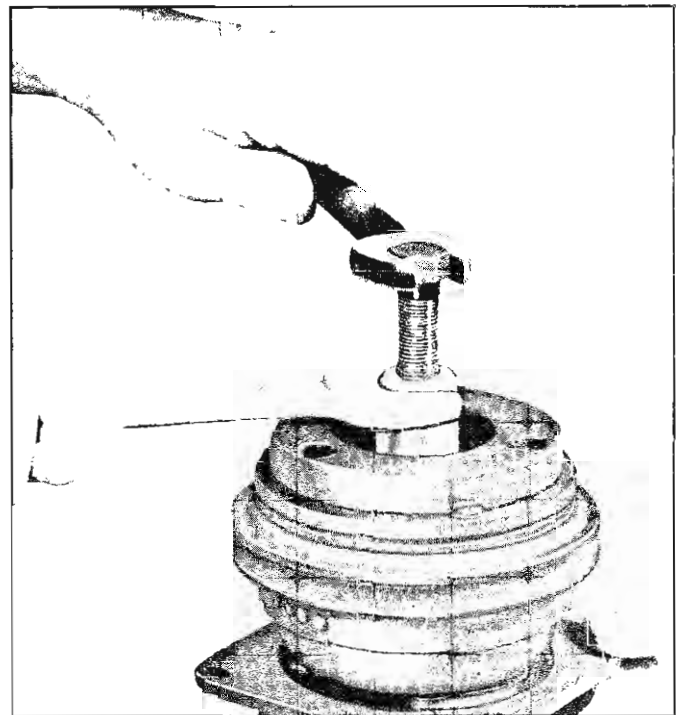

Fig. 16—Installing Hub and Drive Plate Assembly
3. Using Tool J-9480 and washer J-9480-2 (fig. 16), install the hub and drive plate assembly. Pull the assembly onto the shaft until there is approximately 3/32" space between the frictional sur-